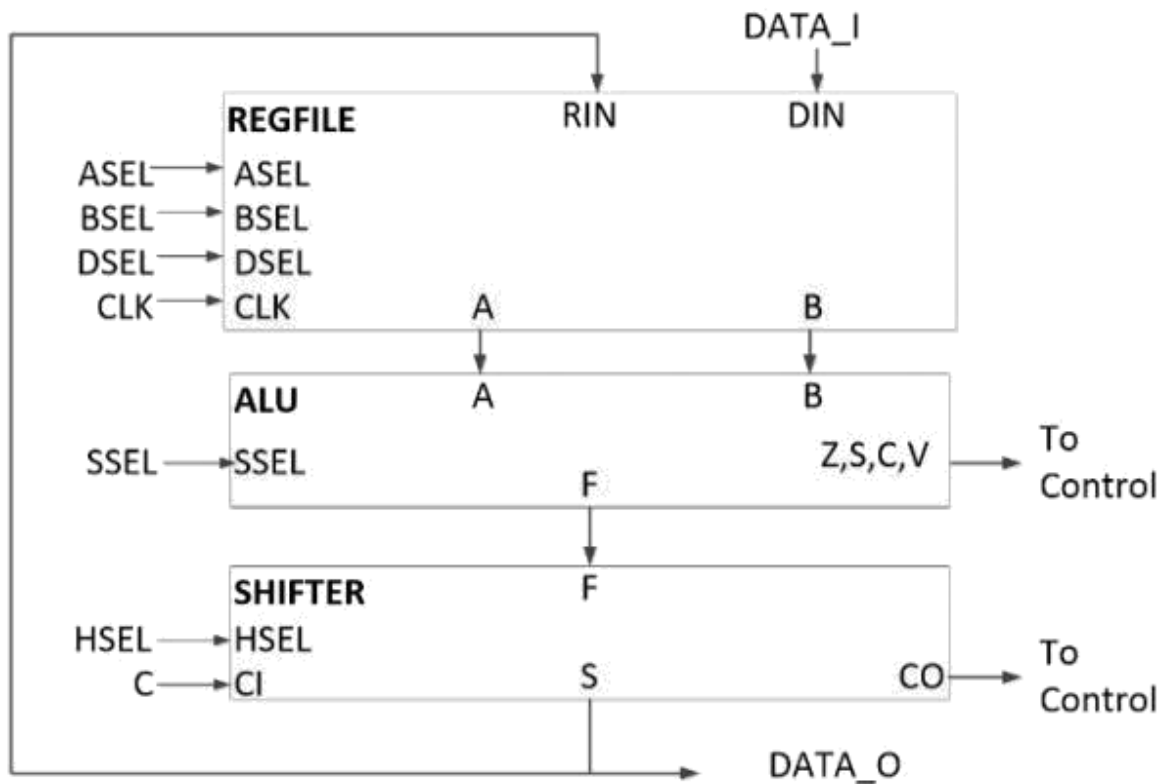

Figure 2.2 Detailed block diagram
I am going to use instantiation method to combine my files that shown in figure 2.2. Firstly, I need to create the CPU file named project. After that I need to create VHDL file of microcode. At the end, to combine REGFILE, ALU and SHIFTER in CPU I have to add those file in to the CPU project directory. Than go to setting and those file name and lastly I just need to write instantiation of those files in my main CPU file.
A.3) From figure 2.2 , I can clearly see that I have to give clock in REGFILE. But in lab6 slides in assessment section it says that I need to declare in main program so that I can give a positive edge clock.